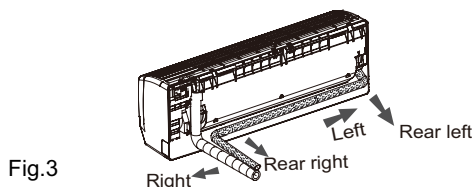

Fig.3
- (1) The pipe can be led out in the direction of right, rear right, left or rear left. (As shown in Fig. 3)